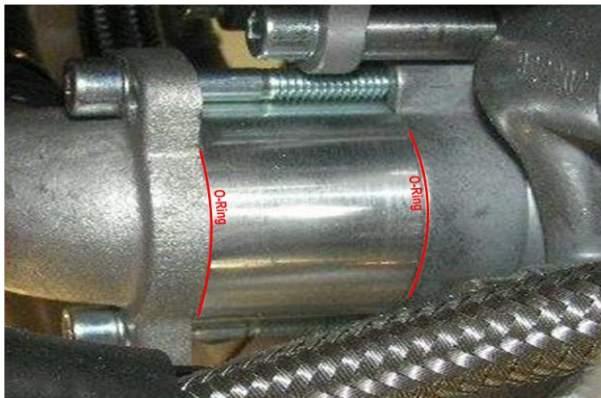

Fig. 9 – Water pump with adapter
- 11 Lubricate o-ring 32x2 slightly with engine coolant and install (in flight direction in front) to adapter. Install water inlet elbow of the water pump with adapter, two M6x45 and in each case one serrated washer M6 to the water pump. The direction of the water inlet elbow must be in flight direction horizontal to the right, the heater hose connection point of the adapter remains at 5 o'clock position. (Fig. 9)
- 12 Secure capacitor with cable ties to mast (Fig. 9).